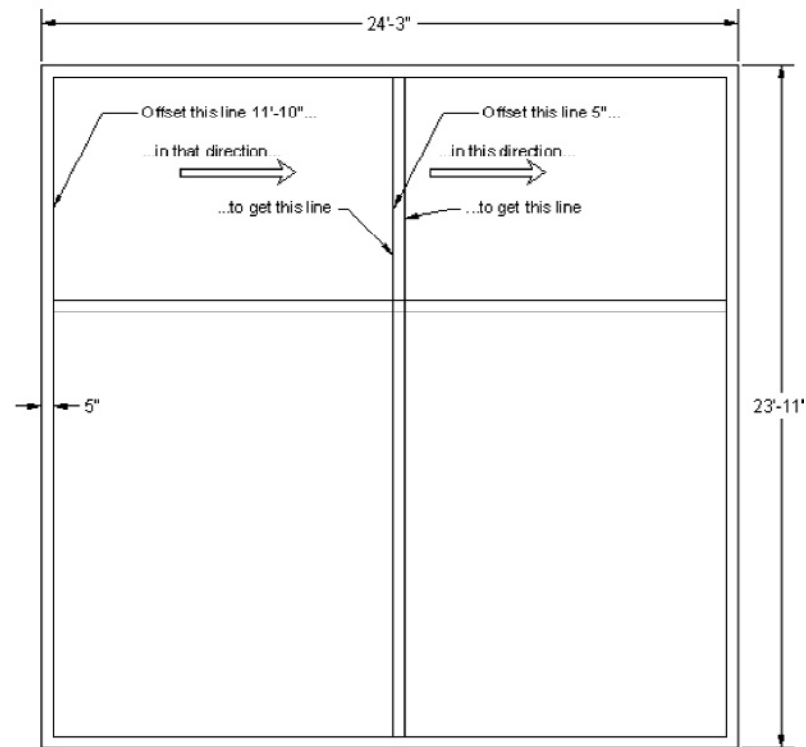

Figure 3.13 – Floor Plan, Step 8
- 8) Offset inner left vertical wall 11'-10" to the right to create part of the kitchen wall. Then right away offset 5" for thickness of wall. Repeat with inner top horizontal wall (offset 7'-10") to get the lower part of kitchen. Offset 5" right away for thickness. Figure 3.13 illustrates this graphically.